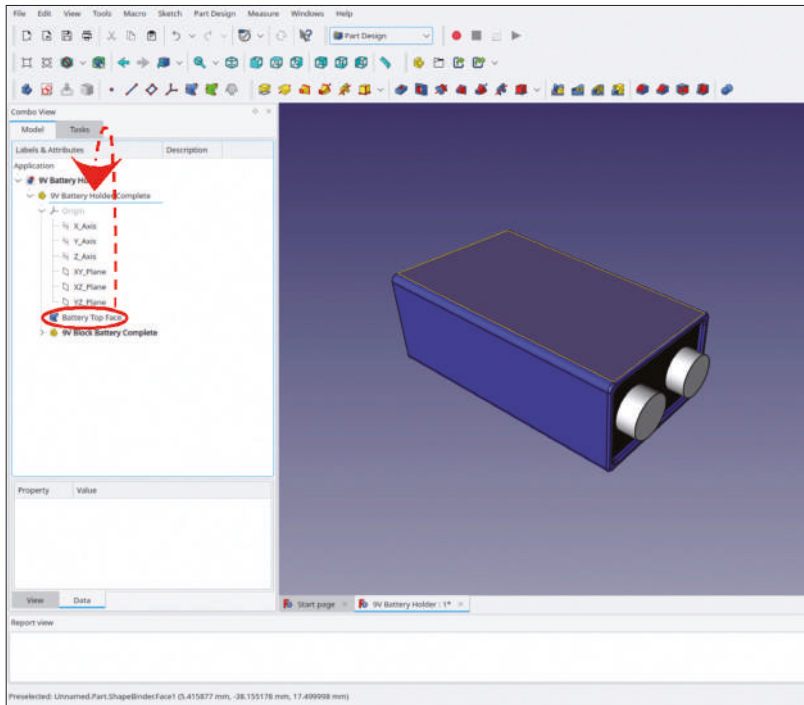

Figure 5-4
6. Rename the shape binder to 'Battery Top Face'. In order to make it accessible for other objects in the parent Std-Part-Container, drag and drop it into '9V Battery Holder Complete'. The Std-Part-Container '9V Battery Complete' can be collapsed in the tree view (Figure 5-4). Leave the trace support of this shape binder set to 'false', because you do not expect changes to the battery anymore.